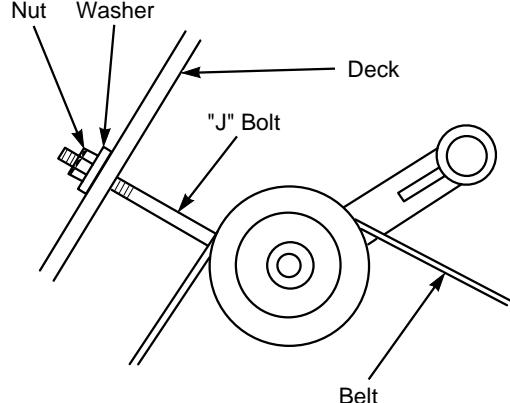

Figure 3. Cutter Deck Belt Adjustment R.H.
3. Adjust the RH blade drive belt using a belt tension gauge. Adjust the belt so that the belt moves 1/2" with 10 pounds of pressure. Adjust the tension by tightening or loosening the J-bolt nut. (See Figure 3)